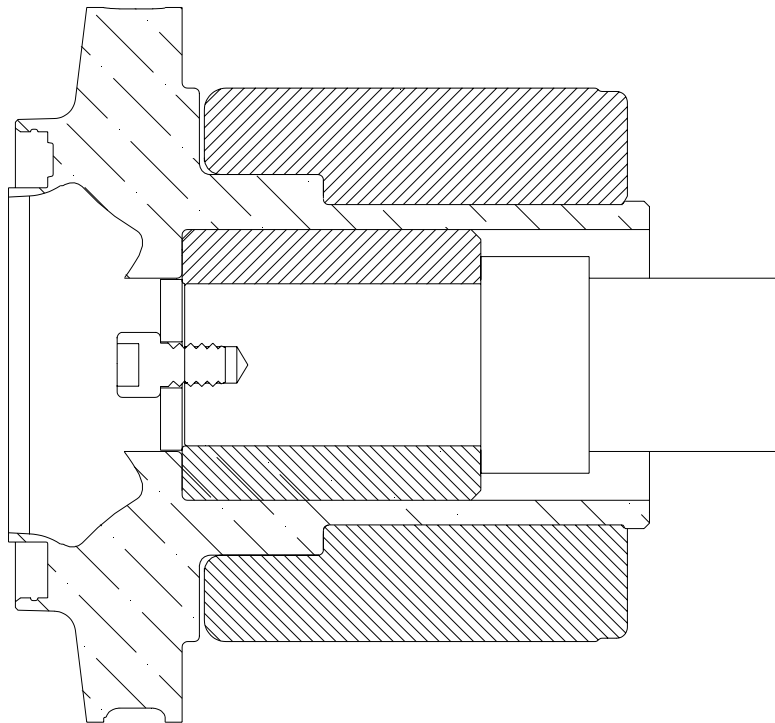

Fig.10-2: KF impeller on arbor
2. Place the impeller assembly (impeller, magnet and main bushing) onto the free end of the arbor, as shown in Fig 10-2, being careful to avoid chipping the SiC bearings. Install the washer with the 1/2-13 socket head cap screw. Lightly tighten the screw (just enough to avoid slip while machining). Be aware of the magnetic attraction between the impeller and lathe jaws.